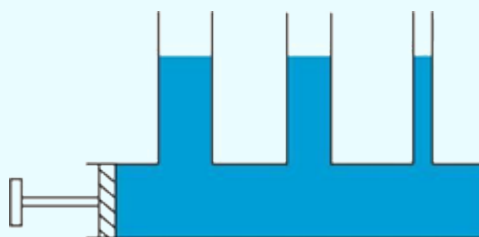

Fig.10.1.11: *Transmission of pressure applied on horizontal piston*
- Take a horizontal cylinder having a piston and three vertical tubes (at different points) as shown in (Fig. 10.1.11) Fill up water in tubes. (The level will be the same in all tubes)